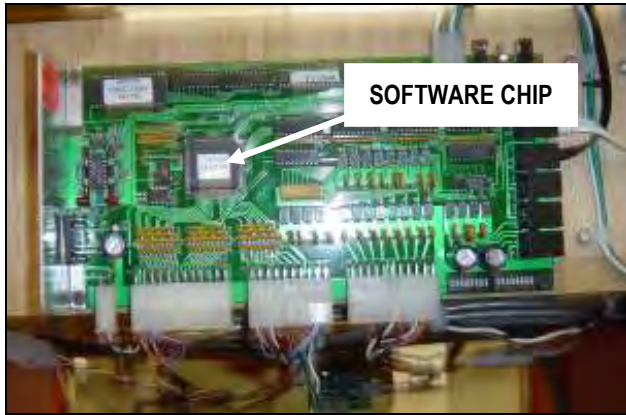

Figure 18 Gen 5 Main Board
2. Remove the four Phillips head screws at the four corners of the board and remove the board from the mounting panel. See Figure 18.